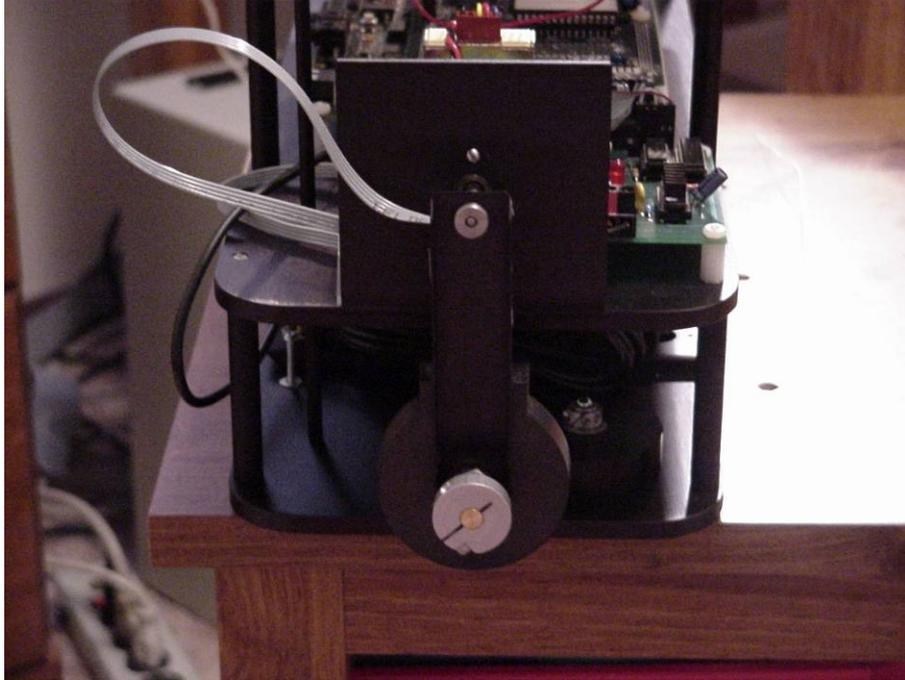

Figure 5-16: Pendubot Cable Routing
1. Lay both ribbon cables from the motor flat along the inside of the link. Use a piece of Scotch tape to tape the cables side by side about an inch below the link coupler. See Figure 5-16. Make sure there are no twists in the cables.
3. Using Figures 5-16 and 5-17 as a guide, create a 3-inch loop to the right (when facing the linkage) of the link and bring them behind the link and tape the cables to the front side of the encoder mount. There should be no twists in the cables and you may have to shape the cables slightly after they have been taped to the encoder mount. You may have to try the routing a couple of times to get it the way